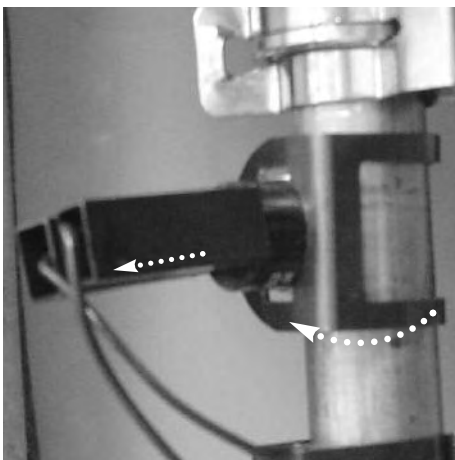

Fig. 95
2. Pull off the thermostat connections and remove the thermostat from the pipe by releasing its securing clip (see Fig. 95).